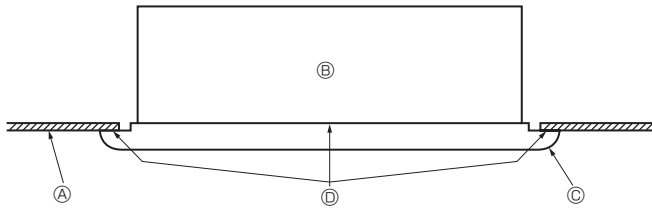

Fig. 5-6
- Next tighten the securing bolts ② and securing screws ③ in the centre three places.
- Finally tighten the securing bolts ② in the four places at left and right.
- At this point, make sure there are no gaps between the indoor unit and the front panel, and between the front panel and the ceiling surface. If there are gaps, the wind may come in and it may cause water to drip (Fig. 5-6).
5.4. Checks after installing (Fig. 5-6)